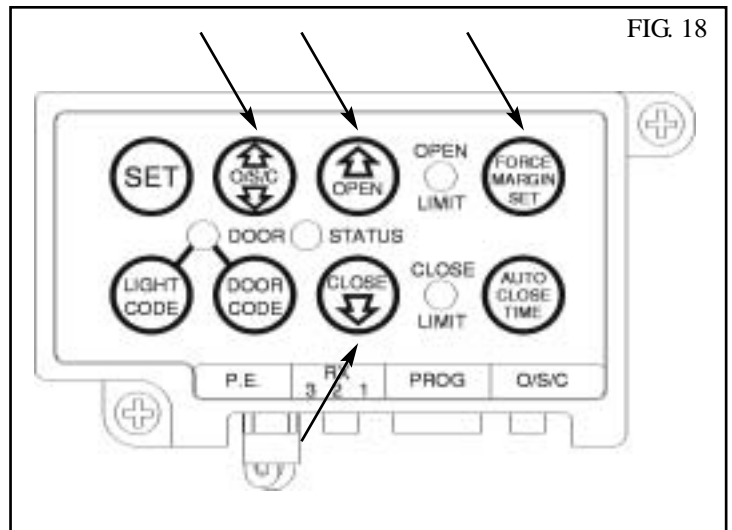

FIG. 18
1. Open the door by pressing the Yellow O/S/C button (Fig. 18).
1. Press and hold the Force Margin Set button (Fig. 18)
2. While holding down the Force Margin button, press the Open button (Fig. 18). Each press increases the force margin. The Open Limit LED will illuminate each time the Open button is pressed. Each press increases the force margin. Test the force as per step 8.1 and 8.2. If the Open Limit LED flashes continuously when the open button is being pressed, this indicates that the maximum force pressure setting has been reached.
1. Press and hold the Force Margin Set button (Fig. 18).
2. While holding down the Force Margin button, press the Close button (Fig. 18). Each press decreases the force margin. The Close Limit LED will illuminate each time the close button is pressed. Test the force as per step 8.1 and 8.2. If the Close Limit LED flashes continuously when the Open button is being pressed, this indicates that the maximum force pressure setting has been reached.
1. While holding down the Force Margin Set button (Fig. 18) press the SET button (Fig. 18) for two (2) seconds.